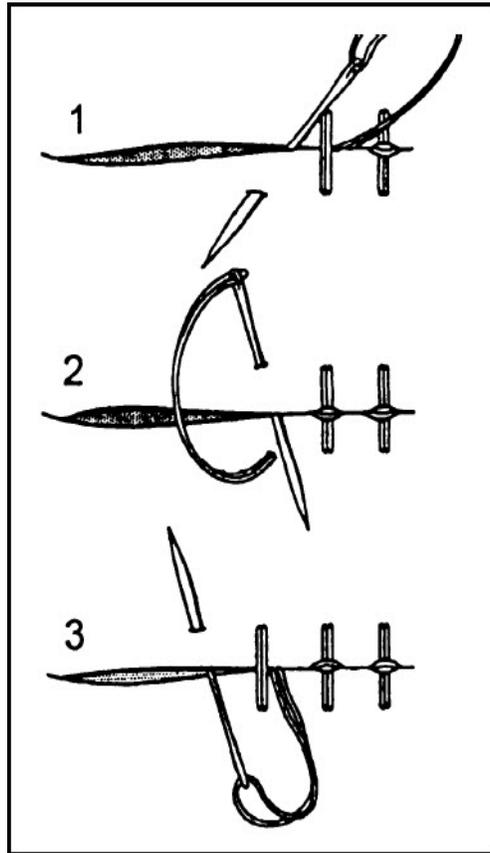

Figure 3-19 Herringbone stitch
- Herringbone stitch. The herringbone stitch is used to mend tears in heavy or painted canvas. Figure 3-19 shows the steps in making this stitch. As you can see from the picture, the herringbone stitch is very strong if applied correctly, as each stitch locks itself as it begins the next.